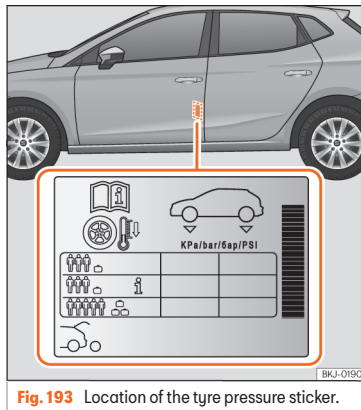

Fig. 193 Location of the tyre pressure sticker.
- Adjust tyre pressure to the load being carried by the vehicle »» **Fig. 193**.
The tyre inflation pressures are listed on a sticker on the rear of the front left door frame »» **Fig. 193**.
Depending on the vehicle, tyre pressure can be adjusted to medium load to improve driving comfort (tyre pressure **i**) »» **Fig. 193**. When driving with comfort tyre pressure fuel consumption may increase slightly.
The tyre pressure must be adjusted according to the load the vehicle is carrying. If the vehicle is going to carry the maximum load, the tyre pressure should be increased to the maximum value indicated on the sticker »» **Fig. 193**.
pressure of 4.2 bar as indicated on the tyre pressure label » **Fig. 193.**
- The driver is responsible for ensuring that all of the vehicle tyres are correctly inflated to the right pressure. The recommended tyre pressure is indicated on the label » **Fig. 193.**
- When the tyres are cold, tyre pressure should be that indicated on the label » **Fig. 193.**